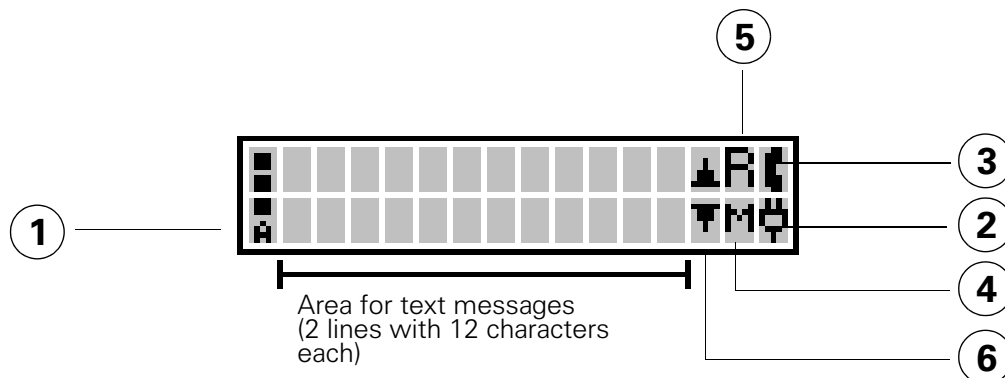

Fig. 6-1 Display structure
- ① Field strength (RSSI) bar display in the display's left-hand margin:
- ② A power supply indicator in the lower right-hand corner of the display:
- permanently lit full battery symbol: powered by battery (see *Fig. 6-1 Display structure*)
- ③ A connect indicator in the upper right-hand corner of the display:
- ④ A message indicator:
- ⑤ A roaming indicator: 'R'
- ⑥ Character 'up/down arrow' (only in connection with SMS message): indicates that you should scroll down to read the rest of the SMS message.